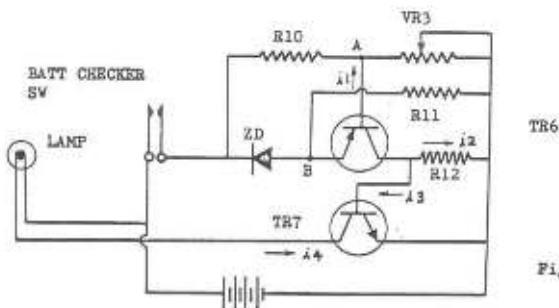

Fig. 2-29
By pushing in the BATT checker button, the battery life can be checked easily. If the indicator does not glow, the battery is out of use. Battery checker circuit is shown in Fig. 2-29.
As a sensor for checking the battery out-put, resistors R10, R11 R12 and a zener diode (ZD) form a bridge. Two points A and B on the bridge are connected to the base and emitter of TR6 respectively, as shown in Fig. 2-29.